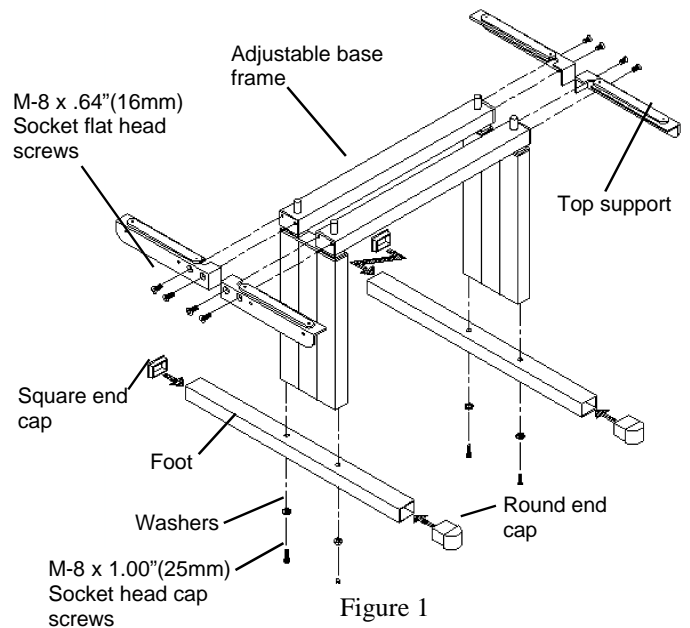

Figure 1
2. Assemble the left and right hand **Top Supports** to the Base Frame using the M8 x .64"(16mm) Socket flat head cap screws. Tighten securely using the 5mm wrench. See **Figure 1**.